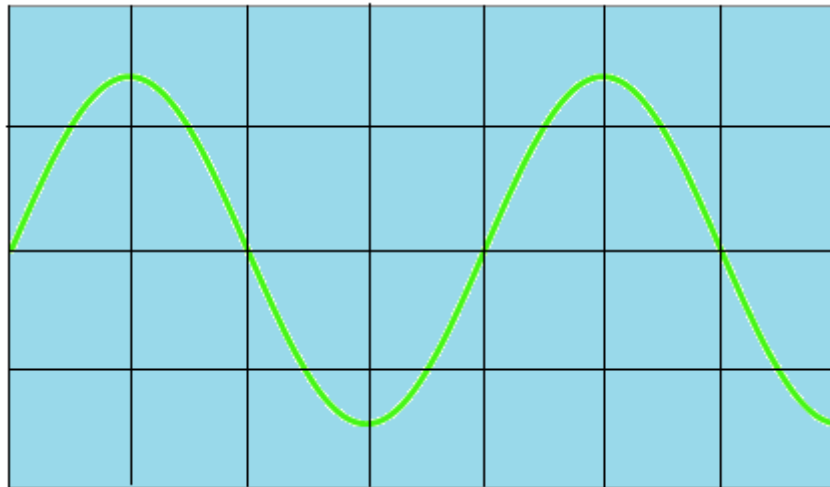

Figure 9: Voltage vs. time curve on the display screen
Now, the 'x-y' button of the oscilloscope is turned off. An input alternating voltage signal is given through either Channel 1 or Channel 2. This voltage signal produced alternating potential difference between the horizontal plates. The oscilloscope itself will generate the sweeping voltage difference between the vertical plates. A voltage vs. time curve (Figure 9) is generated on the display screen. We want to determine 'Time Base' of the oscilloscope that is the amount of time represented by a single division of horizontal side of a square drawn on the display box of the oscilloscope. We know the frequency,  $f$  of the applied alternating voltage signal. By using it we can find out the time period,  $T (= 1/f)$ .
8) See Figure 9. If the frequency of the input alternating voltage is 50 Hz then what is the time base of the oscilloscope? [1]